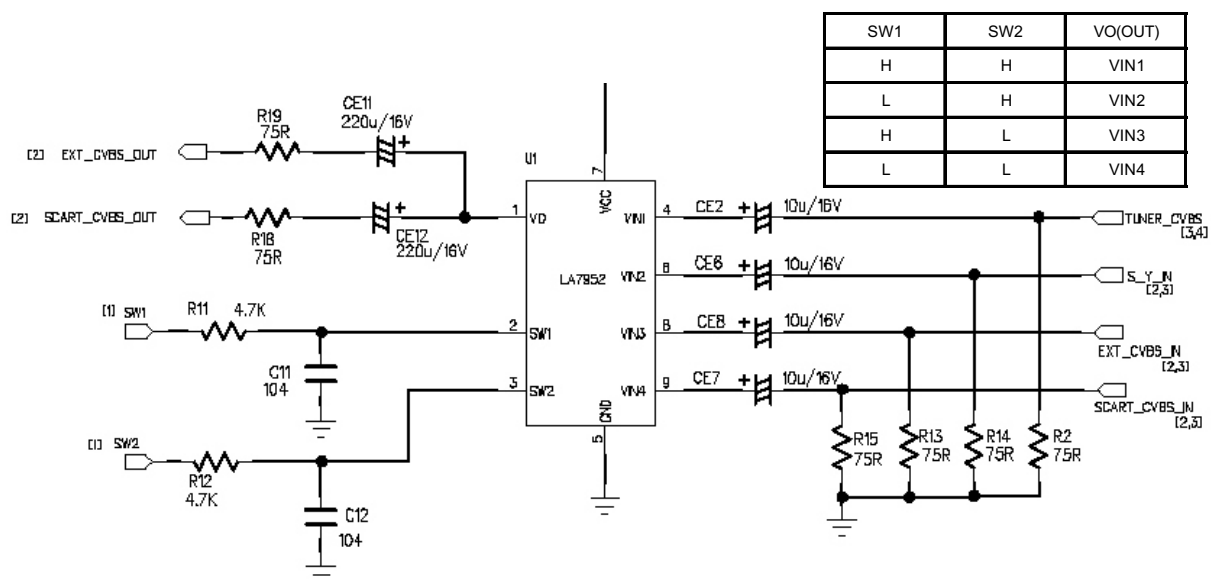

Figure 3.2.3.2 Video output circuit diagram
(1) Video output circuit is shown in the figure 3.2.3.2: